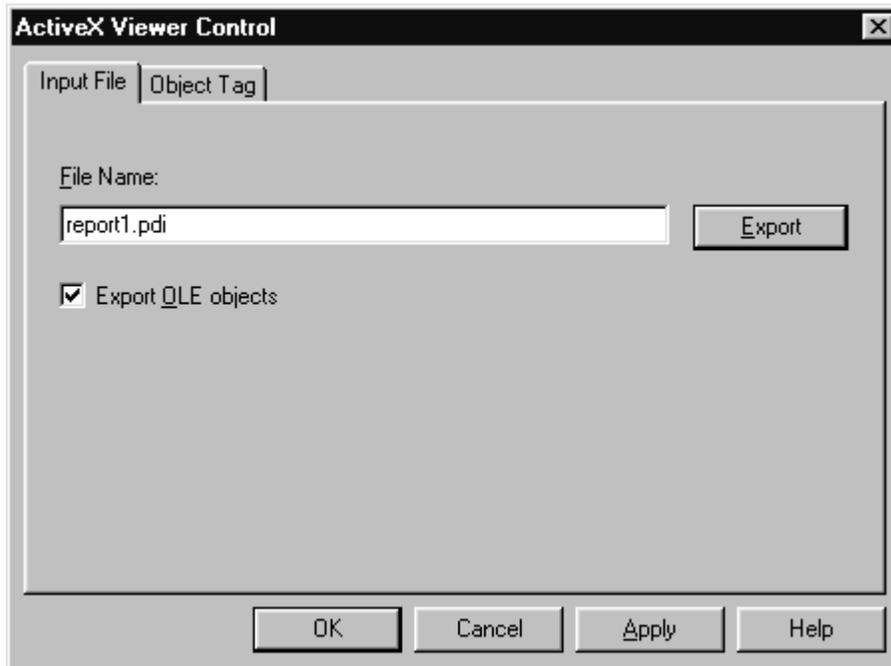

Figure 17.7 ActiveX Viewer Control Dialog
1. On the Export dialog box, highlight "ActiveX Viewer File" in the list box and select Edit to display the ActiveX Viewer Control dialog (see Figure 17.7).